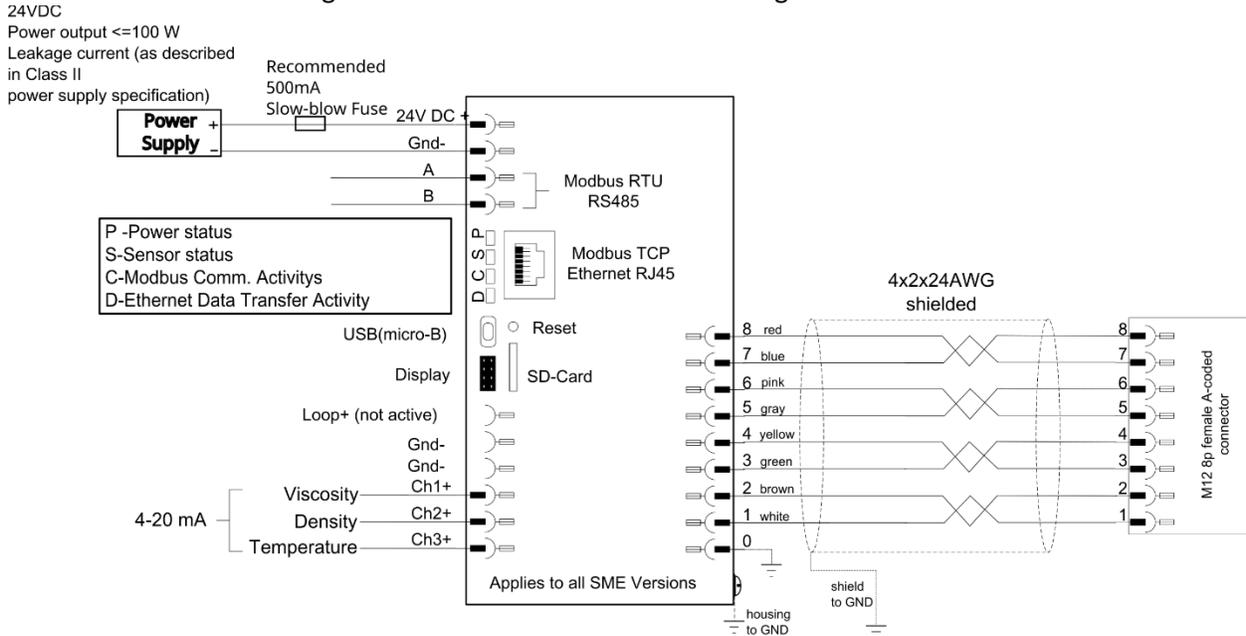

Figure 13. Rheonics sensor standard wiring
**Variants 3:** Variant 3 (SME-TRD) can use any of the grounding configurations shown in Figures 13 to 15, depending on the sensor probe type. This version includes an **external ground tab**, which should be connected to the **cabinet or facility ground**. This connection is important for ensuring **proper electrical safety** and minimizing **electromagnetic interference (EMI)**. In addition to this, the **in-housing grounding terminal** allows connection of the cable shield (, providing local shielding continuity. Using both grounding points together helps ensure robust and reliable grounding for industrial installations.